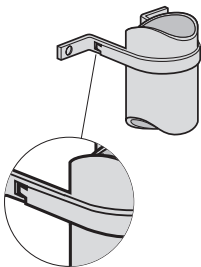

Fig. 7b 140 Bracket on pipe
**Step 2** – Locate strap tongue in back square hole and place bolt in round hole (Fig. 7b)